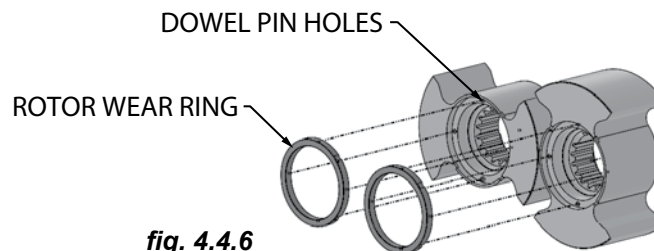

fig. 4.4.6
4.4.1.4.5 FoodFirst Rotor Wear Ring Installation (reference fig. 4.4.6)